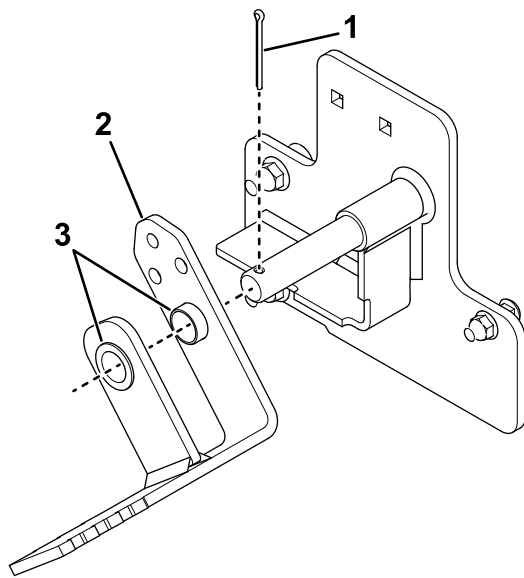

Figure 4
2. Install the parking brake to the left-side bracket using 2 bushings and secure it with a hairpin cotter as shown in Figure 4.